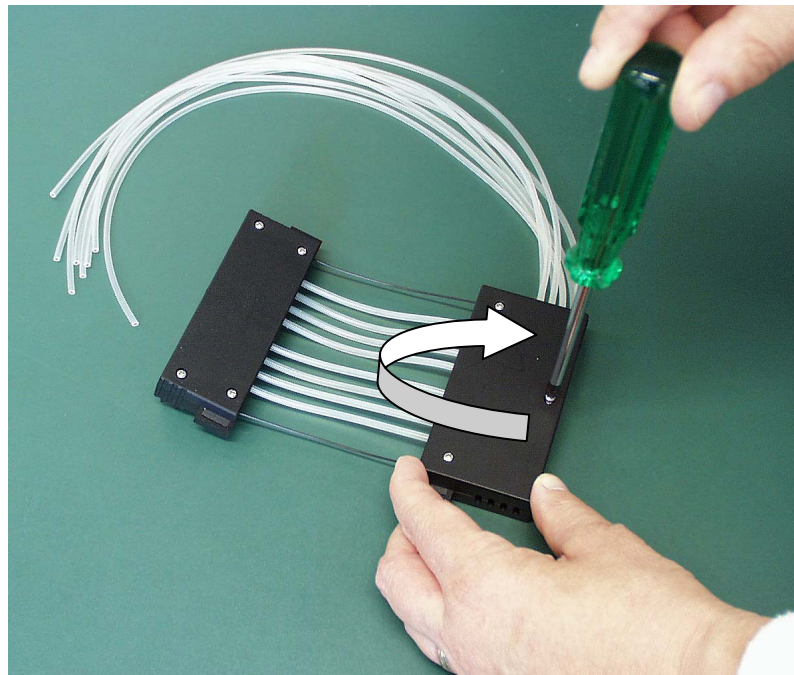

Fig. 7.29 Fastening the cover retaining screws
14. Fasten the three cover retaining screws of the upper part of the dispensing cassette, leaving the front screw slightly open (*Fig. 7.29*).